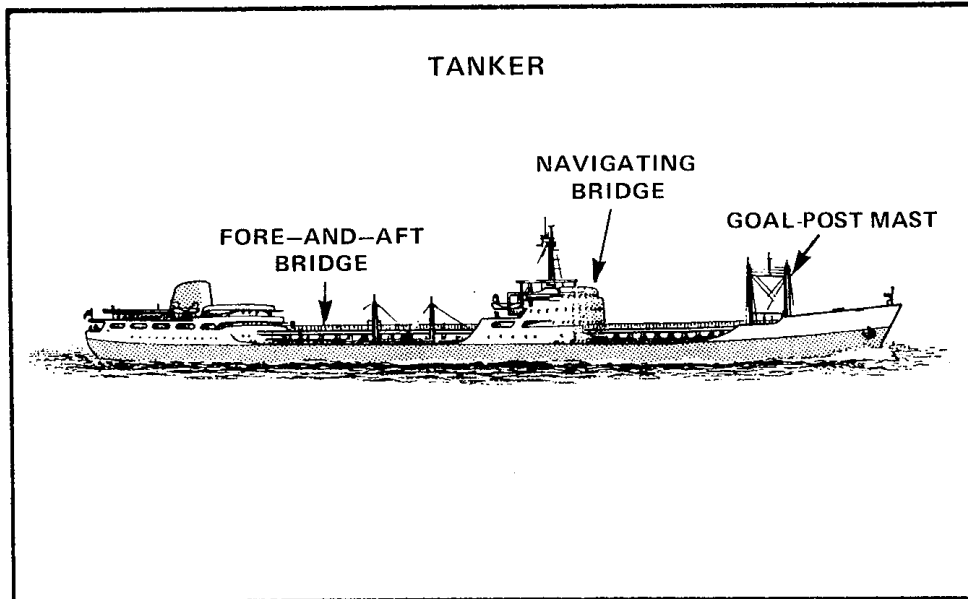

Figure 8-60 Tanker
- r. **Goal-Post Mast** — Two vertical tubular structures joined athwartships by a platform (so that they resemble goal-posts when seen from ahead or astern). The topmast is stepped into the centre of the platform (See Figure 8-60.)
- v. **Navigating Bridge** — The raised structure from which a vessel is steered and navigated. All navigating instruments, controls, radar, signal flags and lamps are situated here. (See Figure 8-60.)
- w. **Fore-and-Aft Bridge or Catwalk** — A raised gangway running fore-and-aft in a low freeboard ship, for the safety of personnel. (See Figure 8-60.)
- d. **Tanker** — (See Figures 8-60 and 8-61.) **Tankers**, as their name implies, are built to carry liquids such as petrol, crude oil, refined oil or molasses. Their gross tonnage varies from 2,000 to over 400,000 and their speed from 10 to 20 knots. They can be easily recognized because they have **few or no derricks** and **their machinery is right aft**. The **bridge structure may be amidships or aft**.